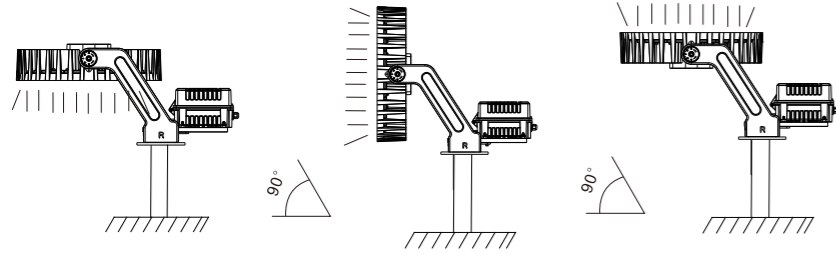

Figure 9
3. According to the need, carry out the projection angle adjustment, angle adjustment range (Figure 9);